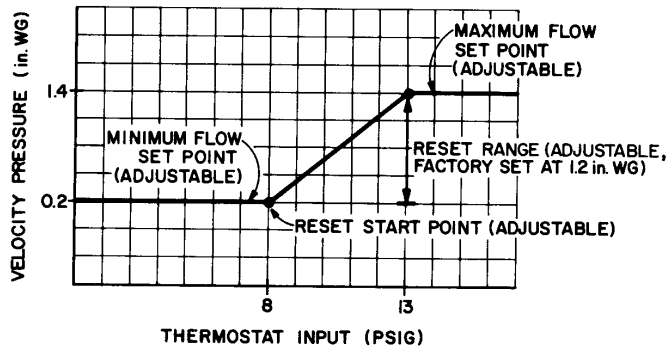
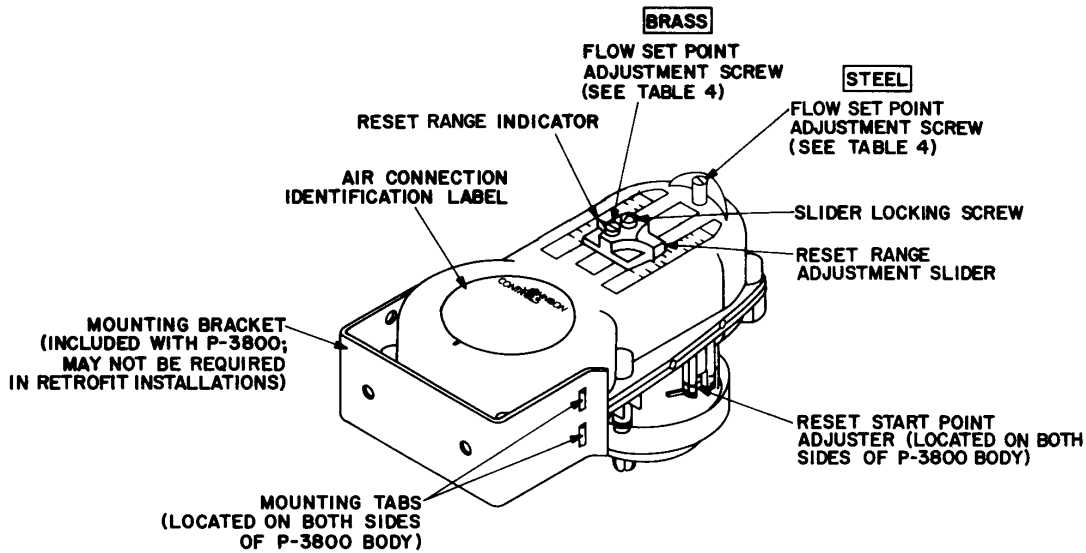
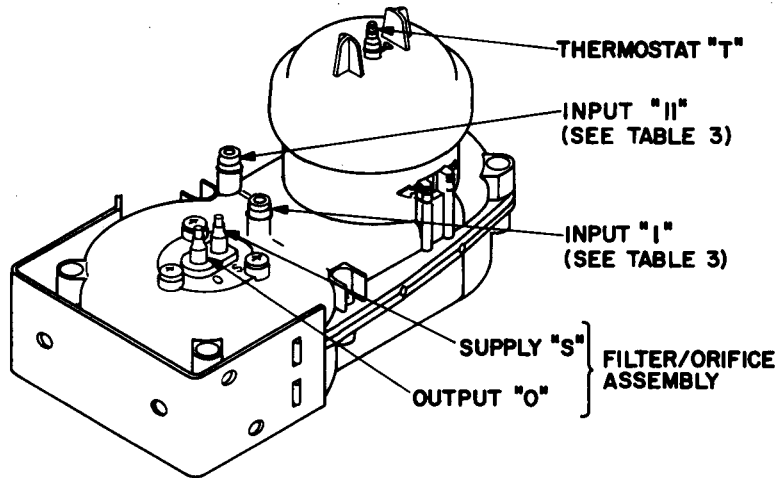

Fig. 4: Set Point Function with Reset
Fig. 6: P-3800 Adjustments
Fig. 8: P-3800 Barbed Air Connections
5. The indicator on the reset range adjustment slider of the P-3800 (see Fig. 6) is factory set at approximately 1.2 in. WG (299 Pa). The desired reset range is the difference between the desired maximum and minimum flow set points, as measured in inches water gage velocity pressure (see Fig. 4). Before connecting any of the existing air lines to the P-3800, loosen the slider locking screw and move the reset range adjustment slider to the desired reset range (as indicated on the VAV box or the system drawing). Tighten the slider locking screw to secure the reset range adjustment slider at the desired setting.
6. The thermostat reset start point adjuster on the P-3800 (see Fig. 6) is factory set at approximately 8 PSIG (56 kPa) for the P-3800-1 and 3 PSIG (21 kPa) for the P-3800-2, as indicated by the hash mark located on the adjustment cam (see Fig.
- Referring to the air connection identification label attached to the surface of the P-3800 (see Fig. 6) and the notations made in Step 1, connect all air lines EXCEPT THE THERMOSTAT AIR LINE to the appropriate barbed air connections on the P-3800 (see Fig. 8).
- Locate the two sets of mounting tabs on both sides of the P-3800 body (see Fig. 6) and install the P-3800 into the existing mounting bracket retained in Step 2, until the mounting tabs "click" into the slots on the mounting bracket.
- Referring to Fig. 6, adjust the brass screw to the desired set point (either maximum or minimum flow as identified in Table 4) to correspond to the value indicated on the VAV box or the system drawing. Turn the screw in small increments until the magnehelic gage or manometer (teed into the high and low pressure pickup lines) reads the desired flow set point.
- Connect the thermostat air line (identified in Step 1) to the thermostat "T" barbed air connection on the P-3800 (see Fig. 8).
- Referring to Fig. 6, adjust the steel screw to the desired set point (either maximum or minimum flow as identified in Table 4) to correspond to the value indicated on the VAV box or the system drawing. Turn the screw in small increments until the magnehelic gage or manometer (teed into the high and low pressure pickup lines) reads the desired flow set point.
To avoid entire unit changeout and recalibration should an air supply system oil contamination problem arise, the P-3800 is equipped with a replaceable filter/orifice assembly (see Fig. 8). This filter/orifice assembly is also available separately as a repair part; order P-3800-600.